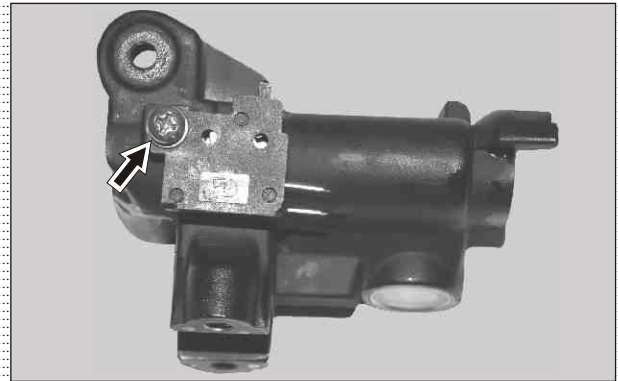

Fig. 6.31
- Remove switch assembly from the master cylinder by removing the screw. (Fig. 6.31)